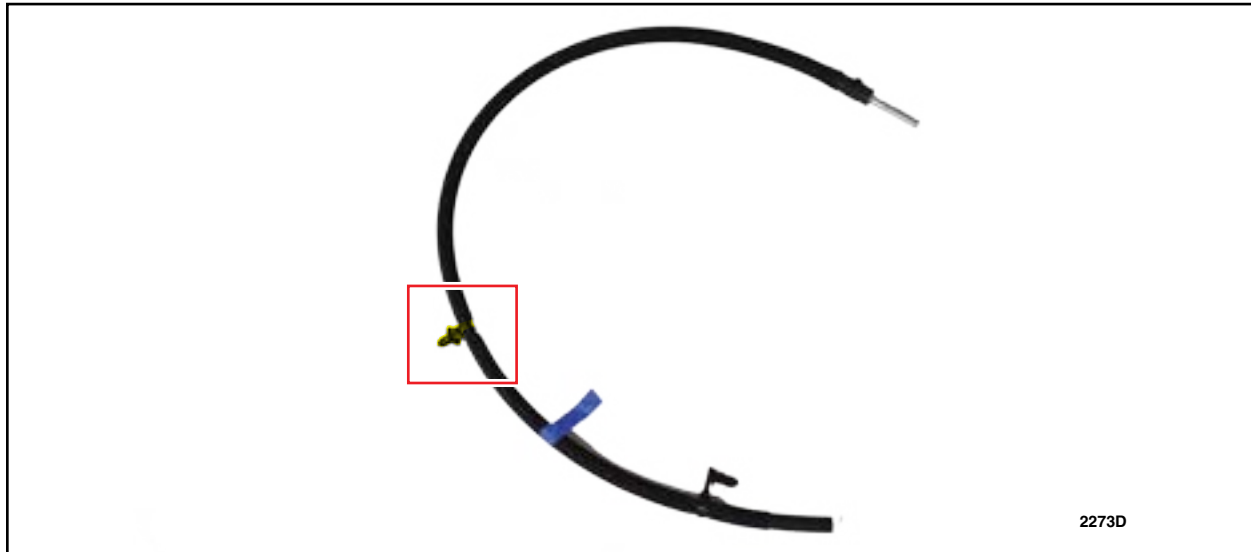

FIGURE 5
19. Remove the fir tree fastener highlighted in the figure below. See Figure 5.